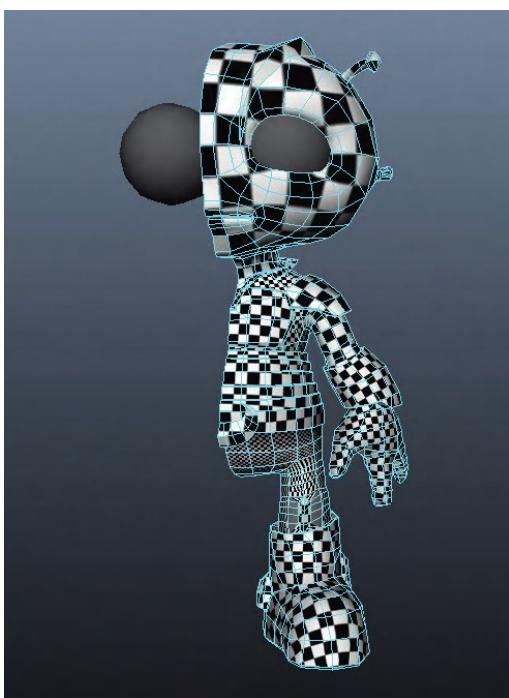

FIG 5.53 Deleting the right side of the character (the non-UVed side).
Step 32: Select all the faces on the right side of the character and delete them (Fig. 5.53).